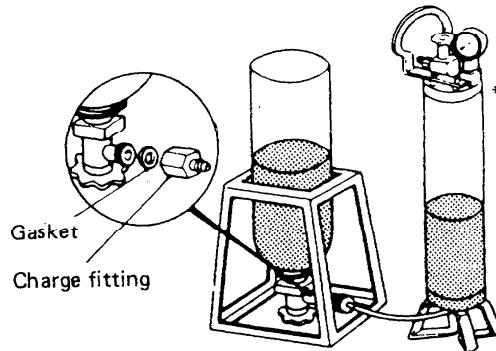

Fig. 22
- * If cylinder has not yet been filled, move at least one pound of refrigerant (R22) to the charging cylinder. Fig. 22